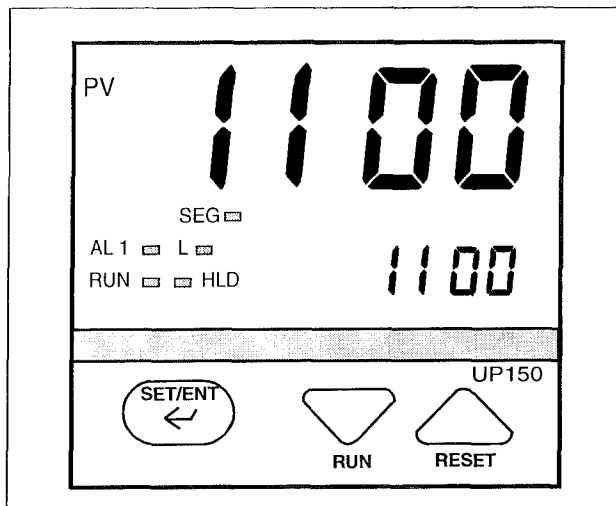

Figure 5. UP150 Control Panel
3. Press and release the 'SET/ENT' button once to select Local Mode. This selection causes the red indicator to illuminate beside "L" on the control panel (refer to Figure 5).